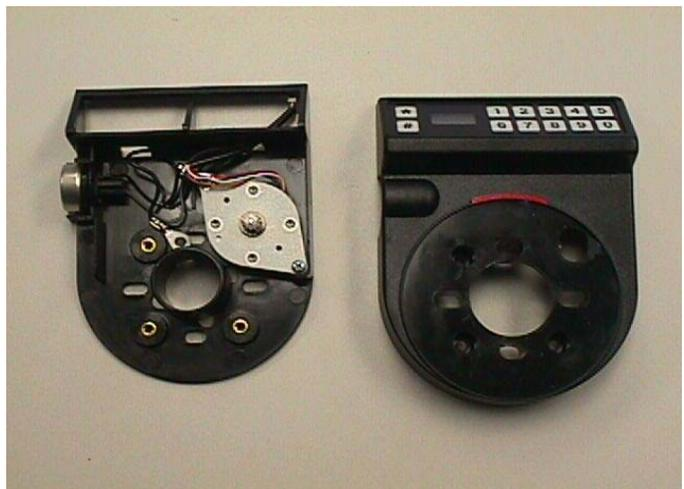

Fig. 6 - Remove front keypad/cover from base assembly
15. Remove the front cover from the base assembly (Figure 6).